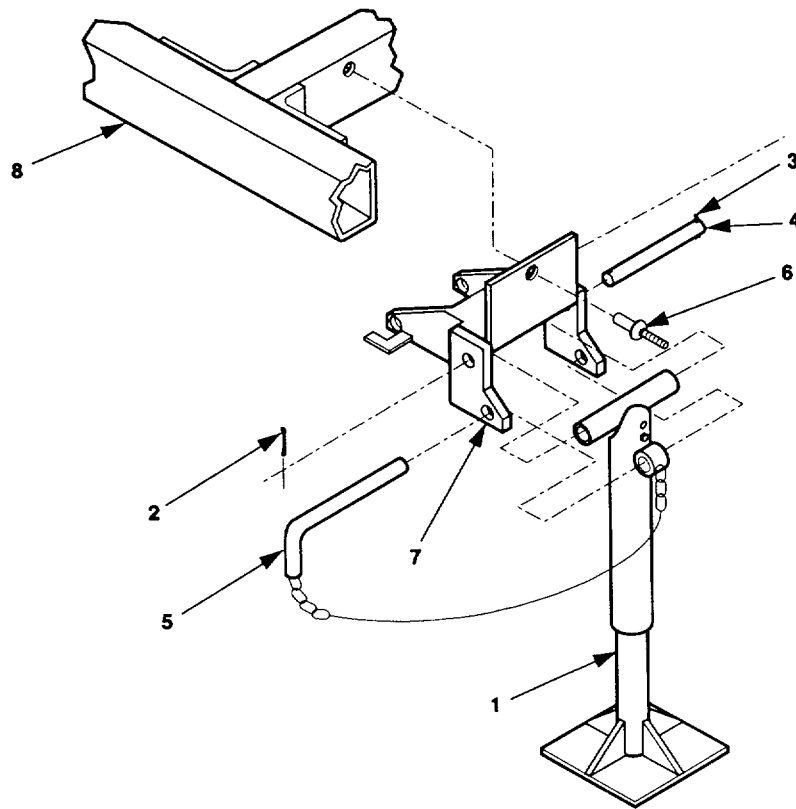

Figure 5-26. Rear Leveling-Support Jack Replacement, High Mobility Trailer.
2. Turn leg base (1, figure 5-26) to take weight off leg prop.
3. Remove either one of two cotter pins (2 or 3) from pivot shaft (4) and discard cotter pin.
4. Hold leg base (1) steady and remove pivot shaft (4) with remaining cotter pin in place.
5. Lift leg base (1) slightly to take weight off retaining pin (5) and remove retaining pin. Move leg base (1) and attached parts out of bracket (7).
6. Remove three rivets (6) and bracket (7) from trailer chassis (8).